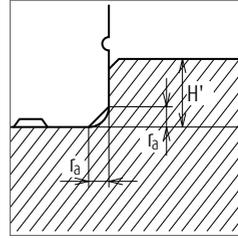

Fig. 10.10 Shoulder for the rail datum face
(1) Shoulder height of the mounting surface of the machine base and corner radius
- › Figs. 10.10 and 10.11, show shoulder height of the mounting surface of the machine base and the size of corner radius. These figures are relevant when the linear guide is pressed to the shoulder of the machine base or table (the raised section from where the mounting surface begins), and horizontally secured to it. Recommended sizes are shown in the clause of "Shoulder height and corner radius r " of each series introduction.
(2) Tightening torque of the bolt